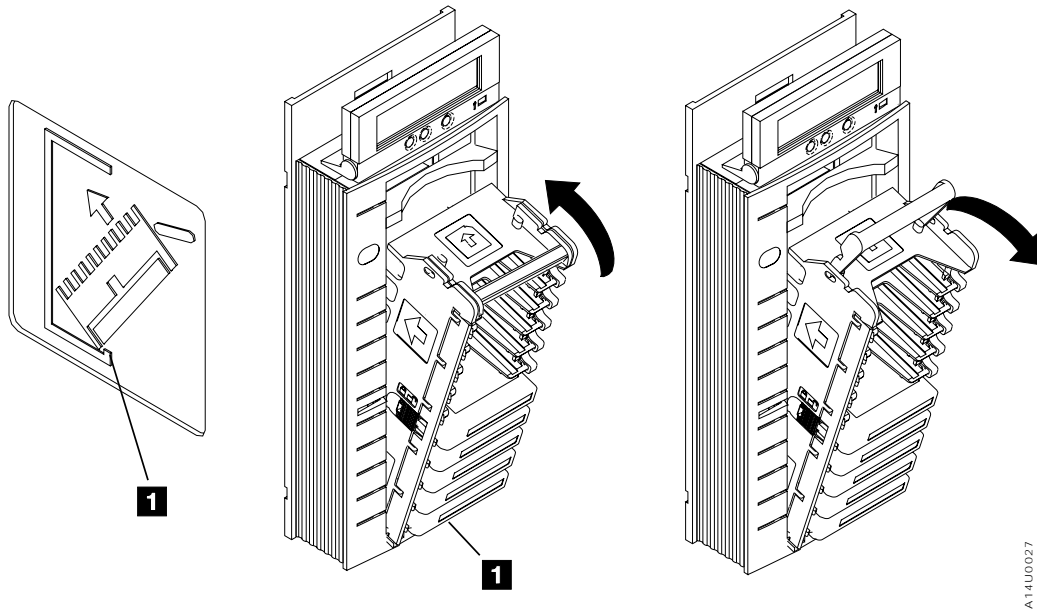

Figure 162. Inserting and Removing the magazine from the ACF
Figure 162 shows how to insert or remove the magazine from the ACF. Use two hands to load the magazine in the ACF as follows:
2. Insert the lower front of the magazine into the ACF as shown in Figure 162 so that the front of the magazine is inside the ACF lip **1**.